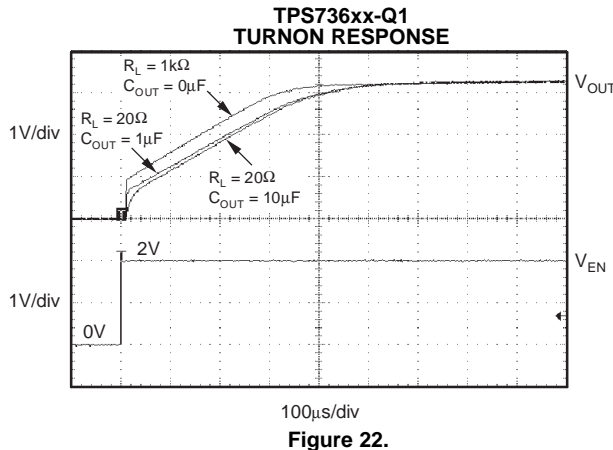

Figure 22.
The enable pin (EN) is active high and is compatible with standard TTL-CMOS levels. A  $V_{EN}$  below 0.5 V (max) turns the regulator off and drops the GND pin current to approximately 10 nA. When EN is used to shutdown the regulator, all charge is removed from the pass transistor gate, and the output ramps back up to a regulated  $V_{OUT}$  (see Figure 22).